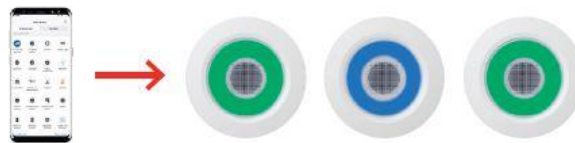

Figure 6
- 5.3 After five “On” – “Off” cycles, the light will begin to cycle between *BLUE* and *GREEN*. The desired “MASTER” unit should be set to *BLUE* and the remaining satellite units should be set to *GREEN*. Steps 5.3 and 5.4 must be repeated for each device in the desired speaker group. Only one device can be configured at a time. The speaker group should look like the units in Figure 6 once configured correctly.